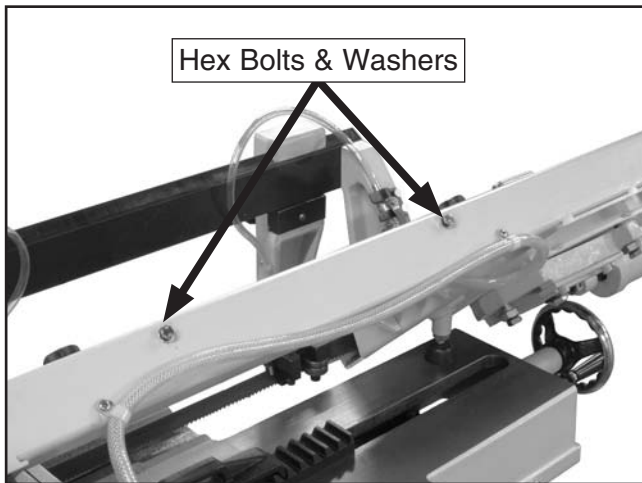

Figure 10. Remove hex bolts.
1. Remove the two hex bolts and washers shown in **Figure 10** from the top of the saw bow.